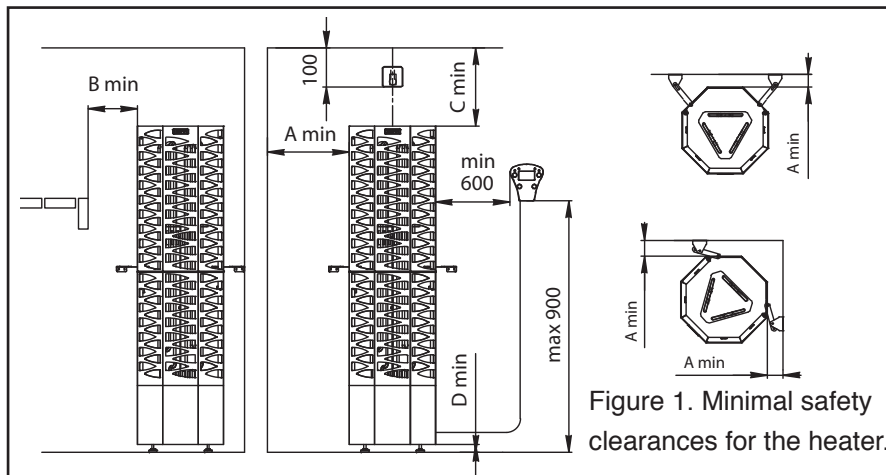

Figure 1. Minimal safety clearances for the heater.
\*\*) See figure 1
- Install temperature sensor to the wall, above the sauna heater so it is located 100mm below the ceiling. (see Fig. 1)
- The installation height of the control unit is a maximum of 90 cm and a minimum of 60 cm from the side of the heater (see Fig. 1).
- The heater must be attached to the wall or to the benches using two support irons, as illustrated in Fig 1.